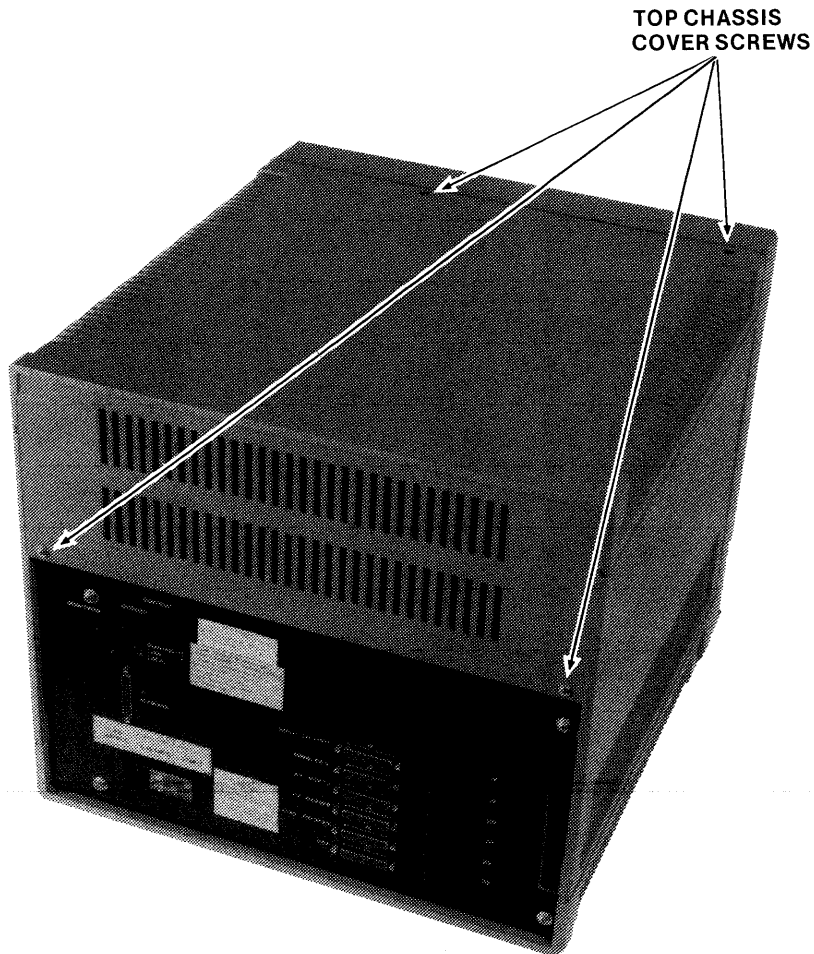

Figure 4-10. Top Chassis Cover Panel
3. Remove the top chassis cover screws, as shown in Figure 4-10.